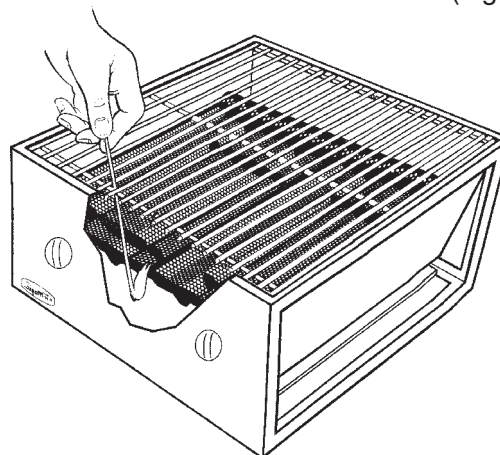

Figure 9 - Manual Lighting
**REMEMBER: FOR SAFE MANUAL LIGHTING, PLACE A BURNING MATCH OR BUTANE LIGHTER BESIDE THE BURNER - THEN TURN ON THE GAS** (Figure 9).